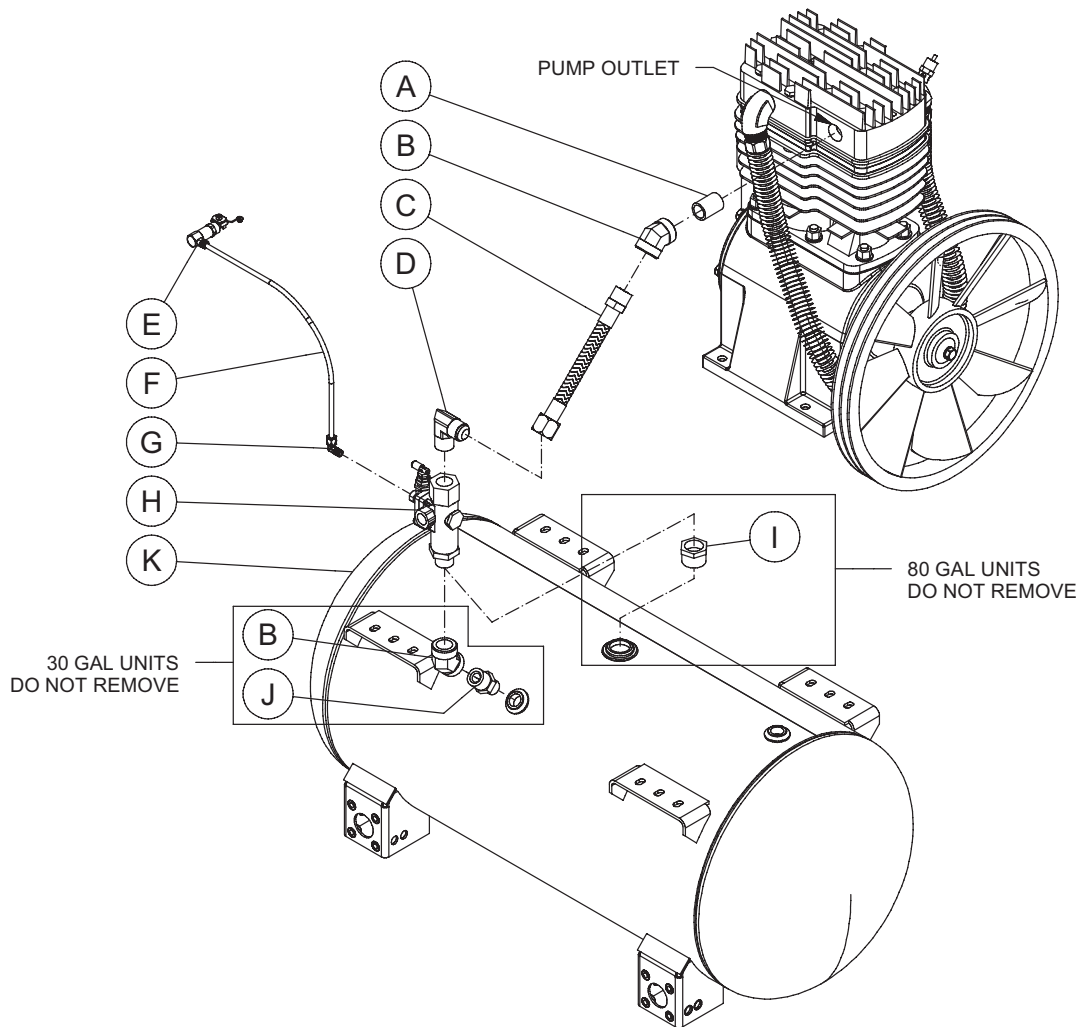

FIGURE 1 (OLD CONFIGURATION)
1. Removing old pilot valve (see figure 1 old configuration).
- Remove 1/4" black air hose (F) from compression elbow (G) from side port of existing pilot valve (H). (Be careful not to lose tube insert from end of black hose.)
2. Remove stainless steel braided hose (C) from pump outlet and from pilot valve elbow (D).
3. Remove elbow (B) and nipple (A) from pump outlet.